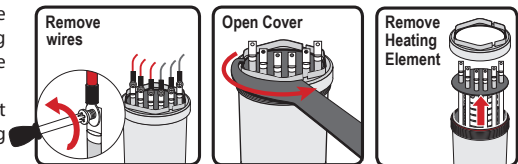

Figure 10 - Removing an Element
- Remove the three (3) Phillips screws securing the control box cover to the assembly. Carefully remove the cover.
- Remove the four (4) screws connecting the water heating assembly to the water heater cabinet.
- Remove the five (5) screws connecting the wiring terminals to the water heater cabinet.
- Use a screwdriver to remove all of the screws connecting the wiring to the heating element being inspected / replaced. See Figure 10.